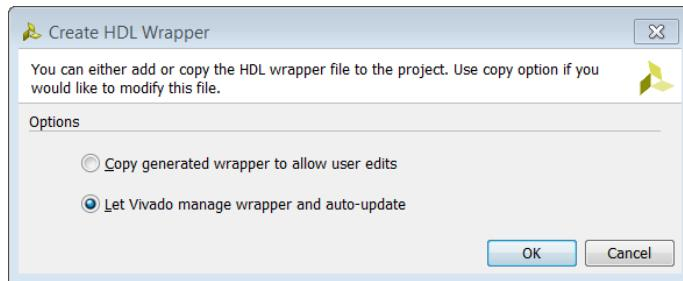

Figure 61: Create HDL Wrapper Dialog Box
14. Keep the default setting, shown in Figure 61, and click **OK**.